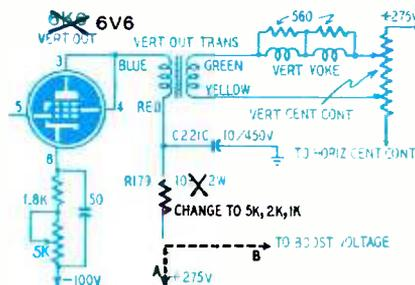

Fig. 3—Make changes shown in black if greater vertical sweep range is needed.
The increased high voltage makes it necessary to provide more vertical sweep than it is possible to obtain with optimum adjustment of the vertical height and linearity controls. In this case, make the changes shown in red in Fig. 3 and described in detail below.
2. Increase the voltage on the plate of the vertical output tube by reducing the value of resistor R179 (in series with the red primary lead of the vertical output transformer) from 10,000 to 5,000, 2,000, or 1,000 ohms as in Fig. 3, connection A. Use the highest resistance that will provide sufficient vertical sweep with good linearity.
3. If still more vertical sweep is desired, then disconnect the red lead of the vertical output transformer from B-plus and connect it to the boosted voltage at pin 1 of the flyback transformer through 10,000 to 5,000 ohms, as in Fig. 3, connection B. Be sure the 10- μf , 450-volt decoupling capacitor C221C is NOT disconnected. Use the highest resistance that will provide good vertical linearity and sufficient sweep, as this connection loads down the boost voltage and reduces the high voltage about 1 kv.